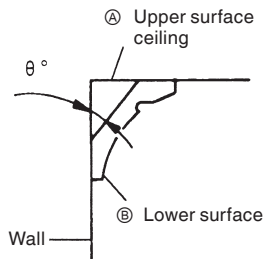
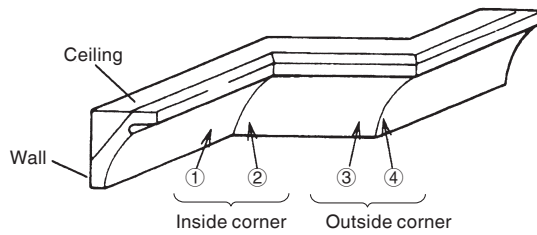

Fig. 31
Fig. 32
Fig. 31 shows two common crown molding types having angles of (θ) 38° and 45° .
For the typical crown molding fittings, see Fig. 32.
(1) Setting to cut crown moldings at positions ① and ④ in Fig. 32 (see Fig. 33; tilt the motor head to the left):
- ① Turn the turntable to the right and set the Miter Angle as follows:
- ② Tilt the motor head to the left and set the Bevel Angle as follows:
- ③ Position the crown molding so that the upper surface (Ⓐ in Fig. 31) contacts the fence as indicated in Fig. 35.
(2) Setting to cut crown moldings at positions ② and ③ in Fig. 32 (see Fig. 34; tilt the head to the left):
- ① Turn the turntable to the left and set the Miter Angle as follows:
- ② Tilt the head to the left and set the Bevel Angle as follows:
- ③ Position the crown molding so that the lower surface (Ⓑ in Fig. 31) contacts the fence as in Fig. 36.
(3) Setting to cut crown moldings at positions ① and ④ in Fig. 32 (see Fig. 37; tilt the head to the right):
① Turn the turntable to the right and set the Miter Angle as follows:
② Tilt the head to the right and set the Bevel Angle as follows:
③ Position the crown molding so that the upper surface (Ⓑ in Fig. 31) contacts the fence as indicated Fig. 39.
(4) Setting to cut crown moldings at positions ② and ③ in Fig. 32 (see Fig. 38; tilt the head to the right):
① Turn the turntable to the left and set the Miter Angle as follows:
③ Position the crown molding so that the lower surface (Ⓐ in Fig. 31) contacts the fence as in Fig. 40.